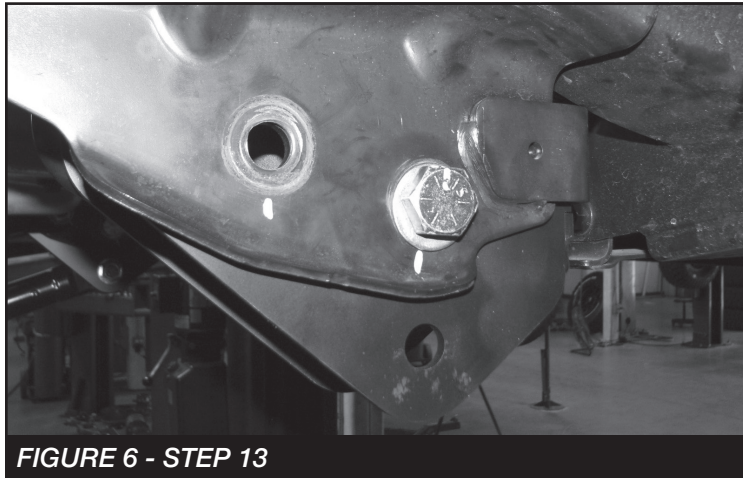

FIGURE 6 - STEP 13
13. Locate FT30650 (4-Link pocket). Install the bracket into the factory radius arm pocket using the supplied  $\frac{3}{4}$ " x 1-1/2" bolts, nuts and washers through the original rear holes in the frame. Leave loose. **SEE FIGURE 6**